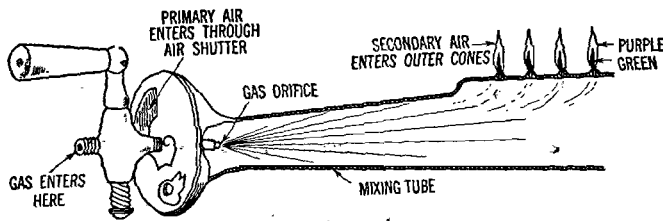

Fig. 7.7. A gas burner.
**43. Gas Burners.** A common type of gas burner is shown in Figure 7.7. The gas enters the burner through a small orifice at a speed of from 100 to 150 feet per second. This rapidly mov-
of gas to air is properly adjusted, the gas flame consists of two cones — an inner green one and an outer purple one. (See Fig. 7.7.)